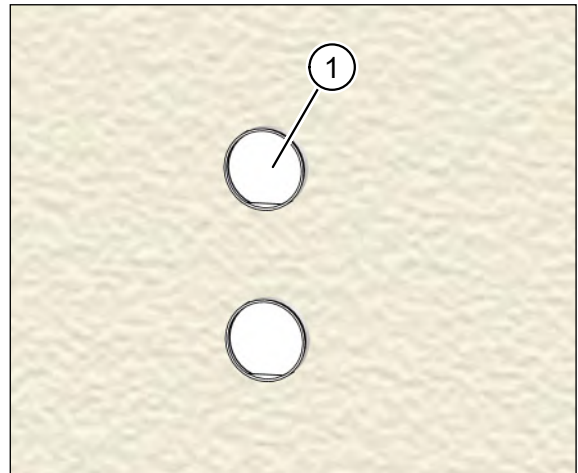

Fig. 67: Installation kit plastered on the outside
- ▶ Remove the two protective sleeves (item 1 in Fig. 67).